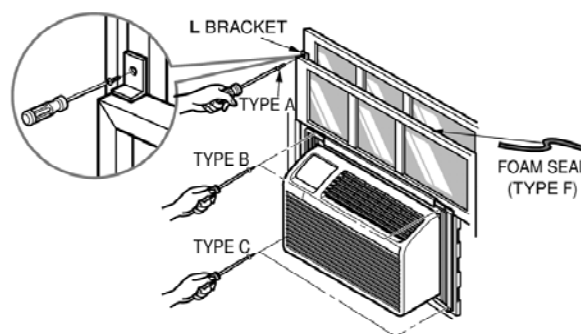

Figure 10
Extend the guide panels (TYPE G) to fill the window opening using 2 screws (TYPE B), 2 screws (TYPE C) to secure them as shown in Figure. 10.
- a. Cut the sash seal (TYPE F) to the window width. Stuff the sash seal between the glass and the window to prevent air and insects from getting into the room, as shown in Figure. 10.
- b. Fasten the L bracket using a (TYPE A) screw, as shown in Figure. 10.